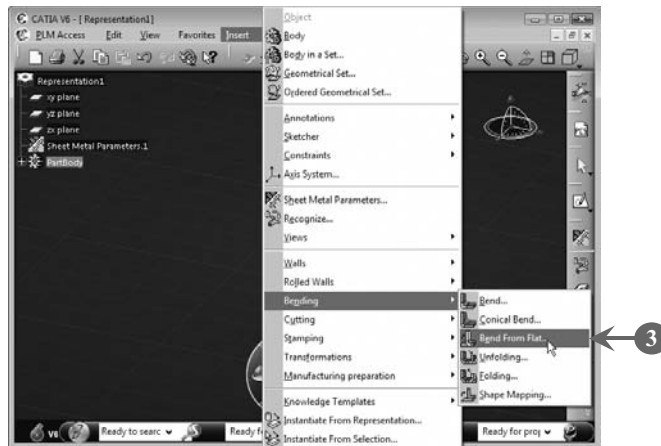

FIGURE 6.53
3. Select **Insert > Bending > Bend From Flat** from the menu bar to create a bend from the sketch, as shown in **Figure 6.53**: